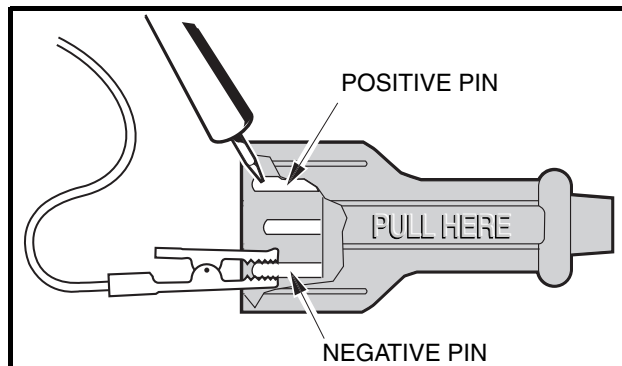

Figure 5-13 DC Plug Test
2. Using a continuity tester (CCI P/N 1011273) or multimeter (CCI P/N 1011480) set to 200 ohms, connect the test probes to the pins marked (+) and (–) on the DC plug (**Figure 5-13, Page 5-20**). Note the reading.